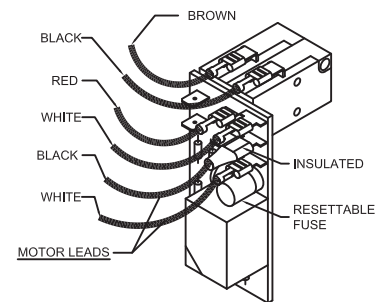

Figure 2
6. Connect wires to terminals as shown in Figure 2 and re-install the weather cover.